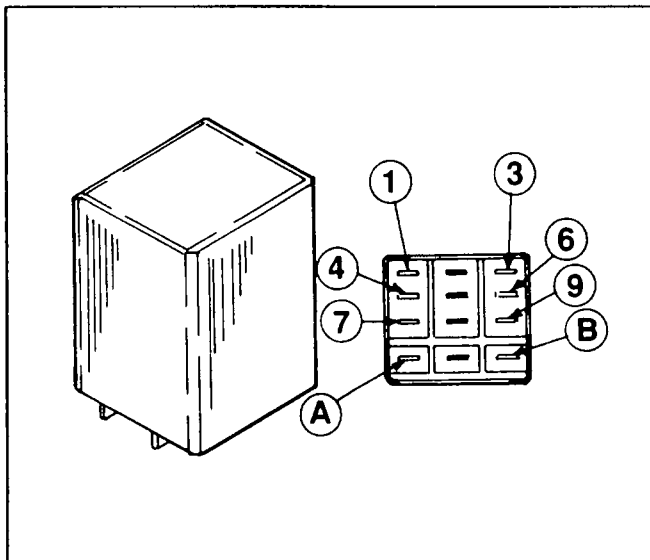

Figure 5. Transfer Relay Test Points
3. Disconnect all wires from the transfer relay terminals (see Figure 5). Note wire numbers and the relay terminals to which they connect.